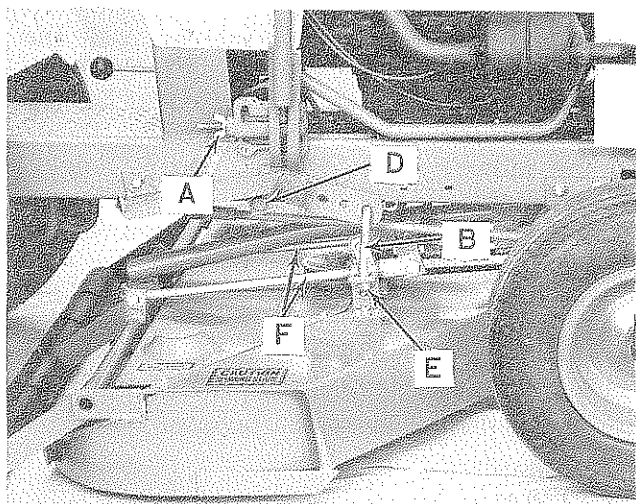
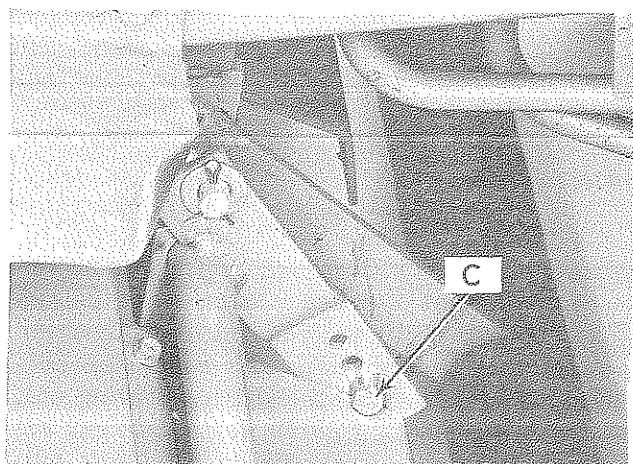

Figure 4
Figure 5
2. The mower is designed to provide a cutting height range from 1-1/2-inch to 3-1/2-inch with infinite adjustment available in between. To raise the cutting height, turn in the lift lever wing nut, Reference "A", Figure 4. To lower the cutting height, back off on the wing nut.
NOTE: When mounting mower on Model 220 or 222 Tractors install right and left hand hanger links, Ref B, Fig 4 to the "center" hole in tractor lift levers.
3. The mower deck must be level from side to side in order to obtain an even cut. To check for side to side levelness, the mower deck must be set at normal cutting height and be fully supported by the hanger links, Reference "B", Figure 4, and the rear roller assembly. The in-board, center mounted, anti-scalp roller should be just off the floor, and the rear roller adjustment stop, Reference "C", Figure 5, should not be touching the mower deck plate. Then measure the distance between the left end of the lift lever cross shaft, "D", Figure 4, and the mower deck. Take the same measurement at the right end of the shaft and adjust the
right hand hanger link locknut "E", Figure 4 until both shaft end to deck measurements are identical.
4. Your mower was adjusted at the factory to be level, fore and aft. Should re-adjustment be required, equally adjust the length of the leveling rods, "F", Figure 4.
7. There are four rear roller height adjusting holes in the left roller pivot arm. The roller adjustment stop, Reference "C", Figure 5, is factory installed in the second from the bottom hole in the pivot arm. The implement lift lever wing nut, Reference "A", Figure 4, should be adjusted so the stop contacts the deck plate. This will provide a cutting height of up to 2-inches before the stop contacts the deck plate. Above this cutting height, the stop will come in contact with the deck plate and raise the roller assembly off the ground.